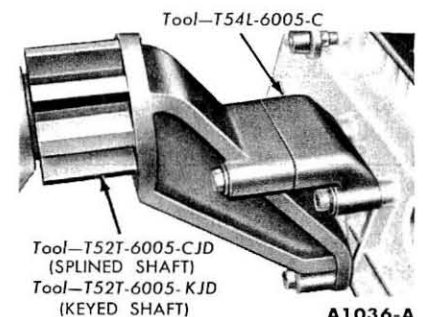

FIG. 9—Engine Mount
24. Install the engine on a work stand (Fig. 9).